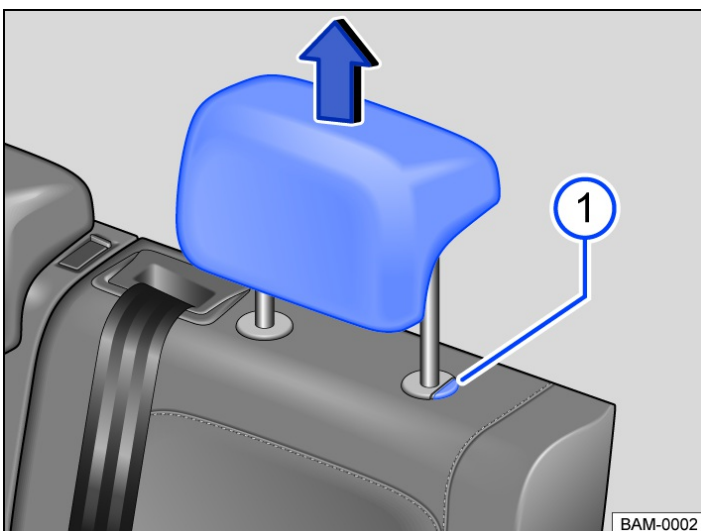

Fig. 2 Rear head restraint: removing.
- Pull the head restraint out fully while pressing the button → Fig. 2 ¹.
- Press and hold the button → Fig. 2 ¹ and push down the head restraint.